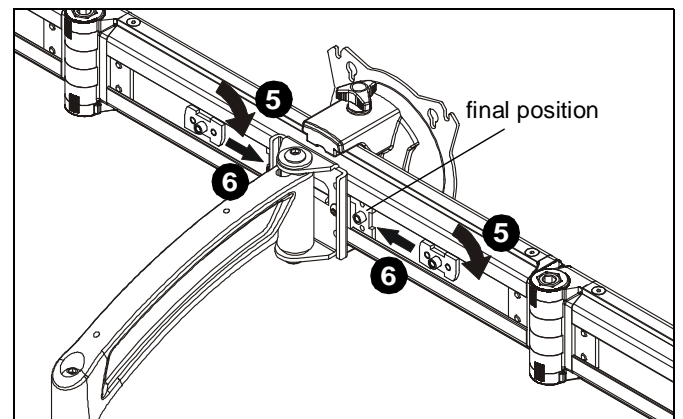

Figure 9
5. (K4W310 only) Rotate channel attachments (J) 90° clockwise. (See Figure 9)
6. (K4W310 only) Slide channel attachments (J) toward arm assembly (Z) to prepare for handle installation. (See Figure 9)